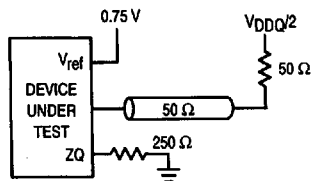

Figure 1. Test Load
1. Tested per AC Test Load diagram. See Figure 1.